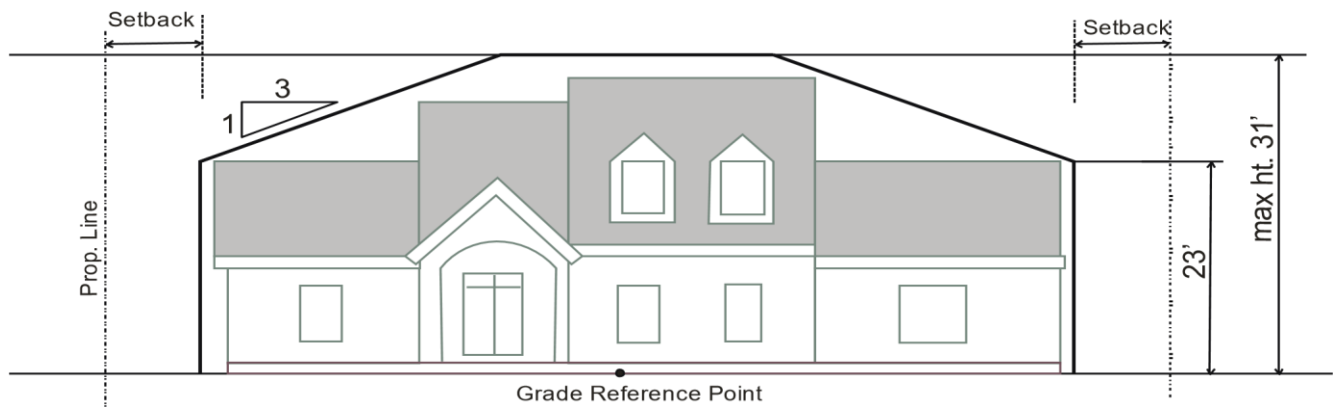

Fig. 1 MASSING DIAGRAM
2. Massing. The roof height of each side of the finished home (new construction/remodel project) shall not exceed 23' measured from the Grade Reference Point. The roofline may increase within a 1 to 3 slope to a maximum of 31' in height from the Grade Reference Point. See Fig 1.